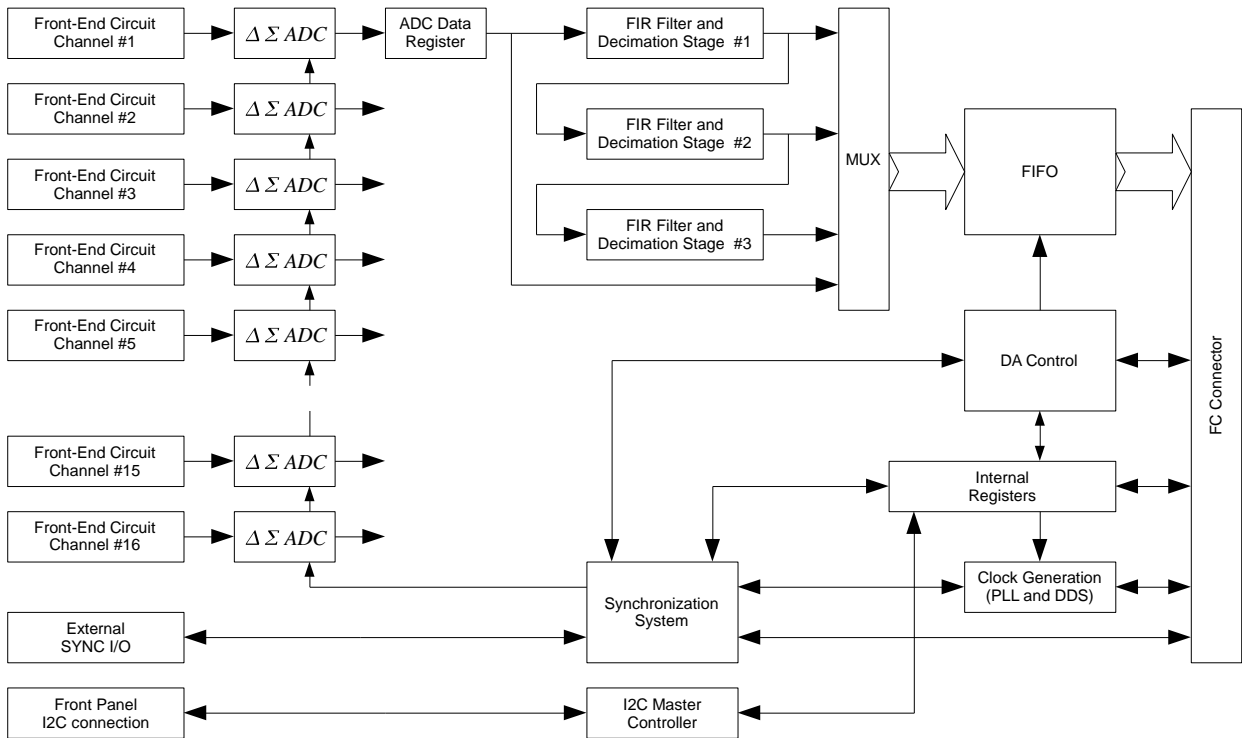

Figure 3 – Simplified Block Diagram
- If you want to install a function card in the upper position of a stack without having a function card in the lower position, you need to mount both spacers (Fig. 3, Pos. 11) on each standoff. If the stack is already populated with a function card in the lower position, mount only the bigger spacer (Fig. 2, Pos. 8) onto each standoff.
Figure 3 shows a block diagram of the analog front end circuitry for a single channel. The input signal is first passed through an optional attenuator stage designed to allow for voltages of up to 60V. For calibration purposes, the input of every channel can be connected to the voltage reference bus available on ProDAQ motherboards and function card carriers via a 2:1 multiplexer.